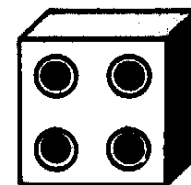

Figure 5. Multiple Box
Now we come to the only real decision you have to make about this device, which is packaging. You could drill out a panel, mount the jacks and fit this "module" in your effects rack. However, I decided to build my multiple in a small plastic box (see figure 5). This way I have a floating patch-point that I can position wherever necessary.
5. The gain of the stage depends directly upon the load resistance, and in general you can expect it to be greater than unity. (a 10K resistance, not a practical load by the way, gives a gain of 1.2). Since there is a gain in general, if you are planning upon serial operation (tying two stages together in series), you must attenuate the output of the first stage somewhat, to attain the input requirements, (mentioned above), for the next stage. Figure 5 (located on page 16) fills the bill.